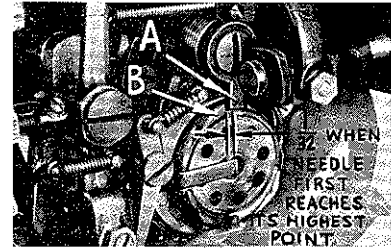

Fig. 8
The bobbin case release is timed correctly if there is a  $1/32$  inch clearance between the release lever (A, Fig. 8) and bobbin case (B), when the release lever has traveled its full stroke to the left and the backlash in the hook has been taken up to the left. To adjust the opener, turn handwheel in operating direction until the release lever has traveled its full stroke to the left. Loosen screw (A, Fig. 9) in bobbin case release lever and turn opener to obtain the  $1/32$  inch clearance. Tighten screw.